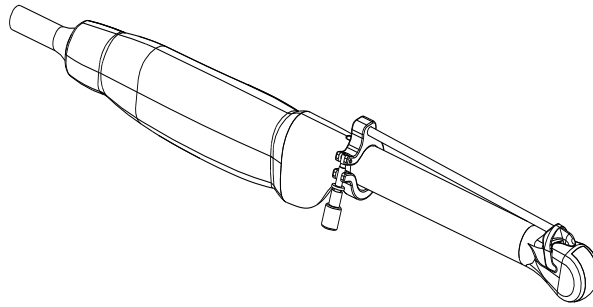
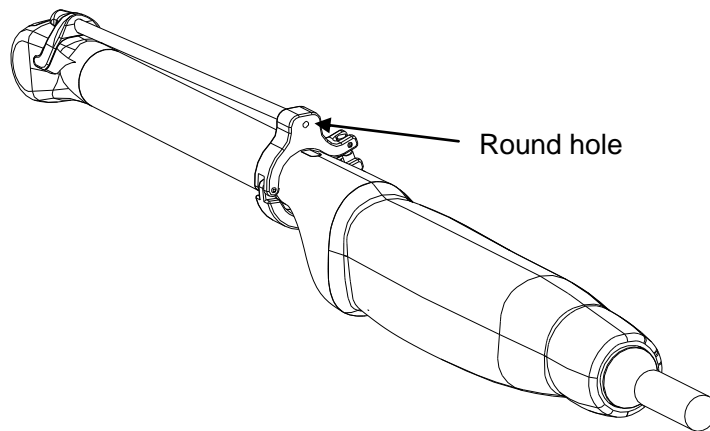

Figure 7-21 Turning the Knob 1 Clockwise
Figure 7-22 Insert the Needle into the Round Hole
Step 2: Attach the needle guide bracket kit to the transducer by placing the bracket over the head of the probe, ensure that the three fixing claws of the bracket catch in the notches at the probe tip, turn the lock clockwise as the arrow direction shown in *Figure 7-21*, and then turn knob 1 clockwise until it locks in place, as shown in *Figure 7-22*.
Step 3: Insert the needle into the round hole, as shown in *Figure 7-22*.